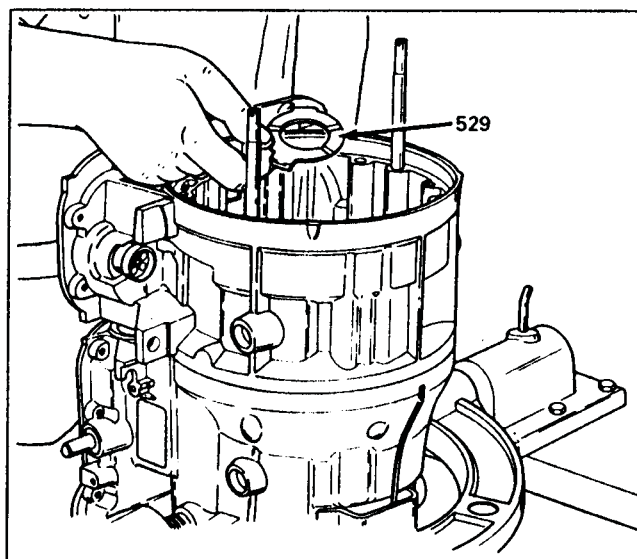

Figure 102
25. Install thrust washer on the adapter case housing with tabs down, as shown in Figure 102, and retain with petrolatum.